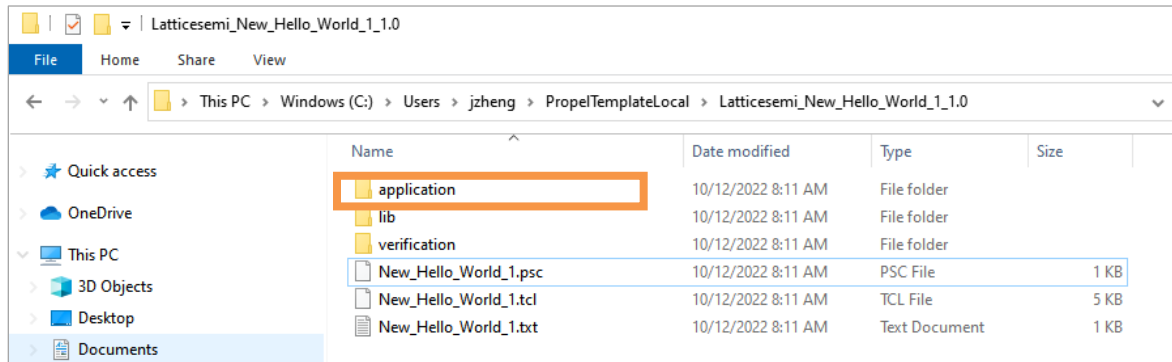

Figure 2.208. Export Template to PropelTemplateLocal Folder
- By default, after you click the Generate button, the new template can be installed to your custom template folder, which is a folder named PropelTemplateLocal under \$HOME (Figure 2.208).
- Option under Template Resources, such as the application folder, contains functional-ready embedded application source codes for C project. Check the box before it (Figure 2.207), then the application under current project is also exported to destination (Figure 2.208). Other files under this option works the same way.